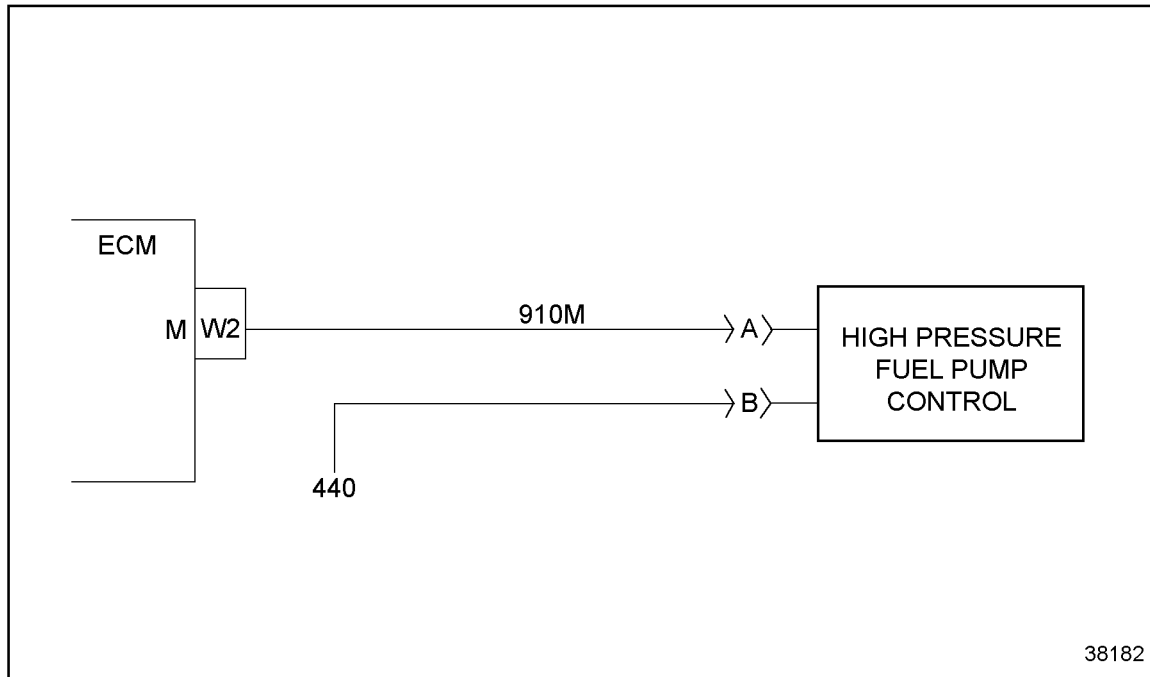

Figure 63-1 PWM Fault
2. Inspect the connections of the PWM wire associated with the flash code logged at both harness connector and the item being driven. see Figure 63-1.